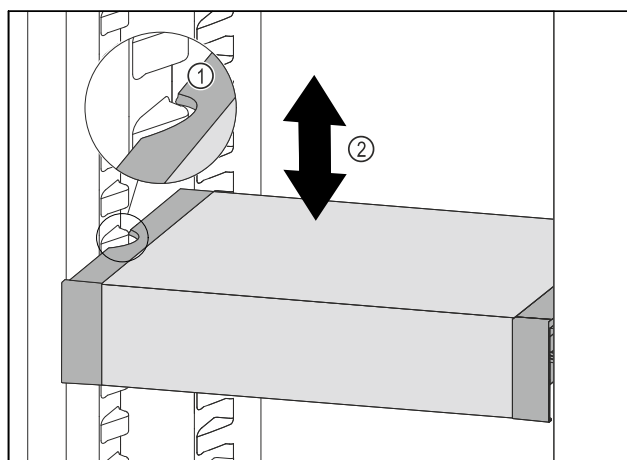

Fig. 87
- Pull VarioSafe forwards until the recesses in the side of the VarioSafe are at the level of the support rib in the refrigerator compartment. Fig. 87 (1)
- Move VarioSafe up or down in the refrigerator compartment until the desired height is reached. Fig. 87 (2)